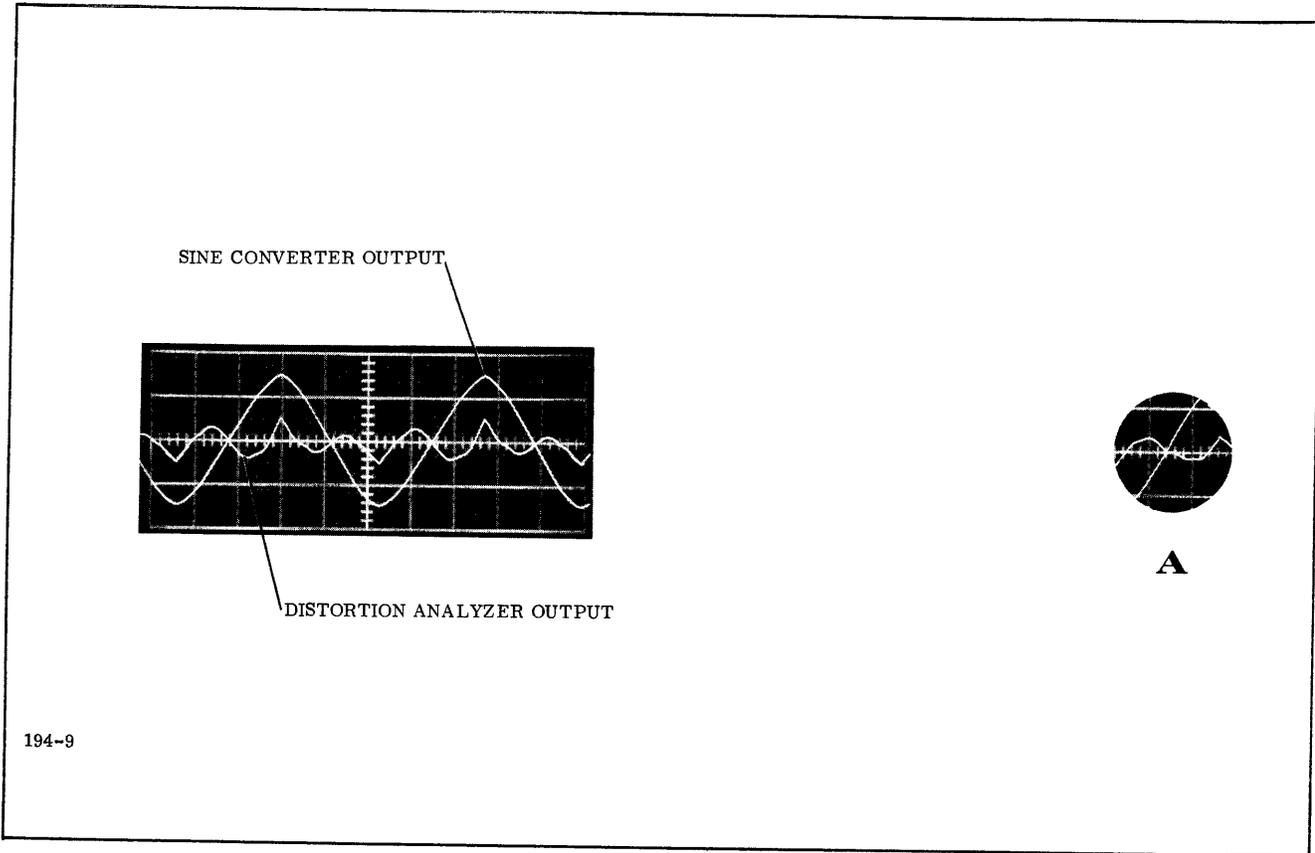

Figure 5-3. Sine Converter Board Output Wave Form
3. Set frequency to 9.99 and X100; see Figure 5-3 for waveform with oscilloscope on alternate sweep and external trigger.
4. Adjust R25 until a [?]burble near the axis crossing appears. Center the burble at the axis crossing with R30 (A, Figure 5-3).